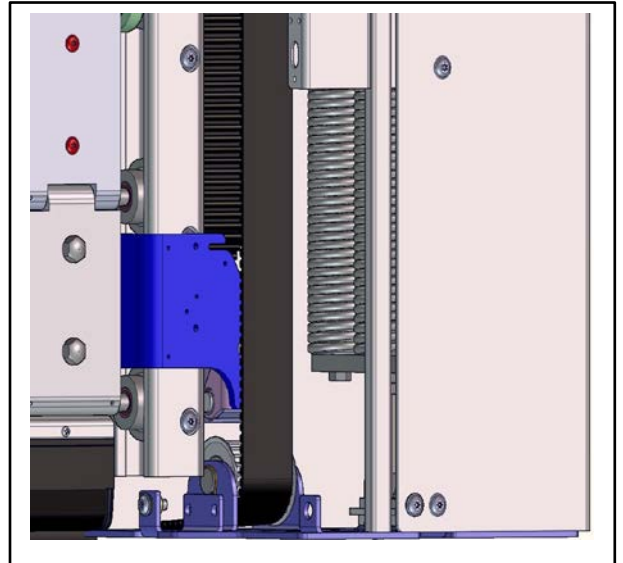

Figure 64
6. Place the pulley inside the loop of the belt and re-assemble the pulley hardware in the bottom plate. (See Figure 64.)